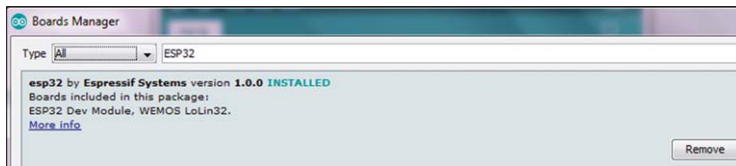

Figure 14.3 ESP32 installed
- Click the **Install** button. You should see the Installed message as shown in Figure 14.3. **Close** the window.